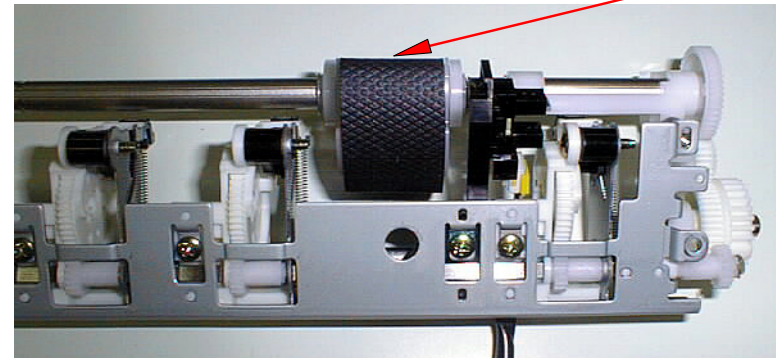

Figure 4-116. Preparation Before Installing "ASF Unit"
35. Rotate "Roller, Paper Feed" on the "ASF Unit" as it is shown in Figure4-116. (We call this condition of "Roller, Paper Feed" as it is shown in Figure4-116 Hopper State.)
The reason why to keep "ASF Unit" in the condition shown in Figure4-116 is to install it into the main unit easily.